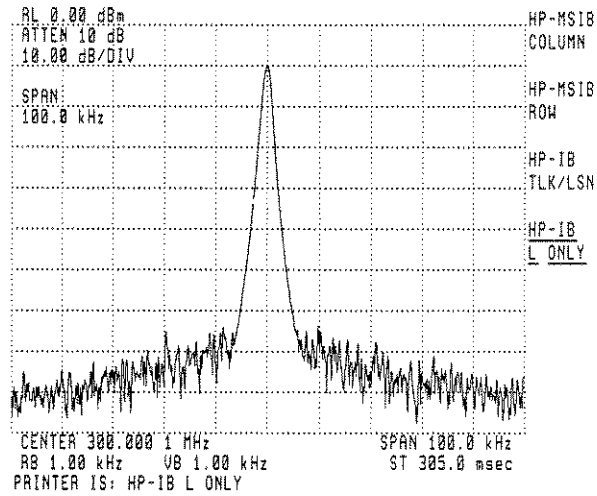

Fig. 46
1. To select Listen Only press the softkey so that **HP-IB L ONLY** is underlined and "PRINTER IS HP-IB L ONLY" is shown in the lower left corner as is Figure 46.